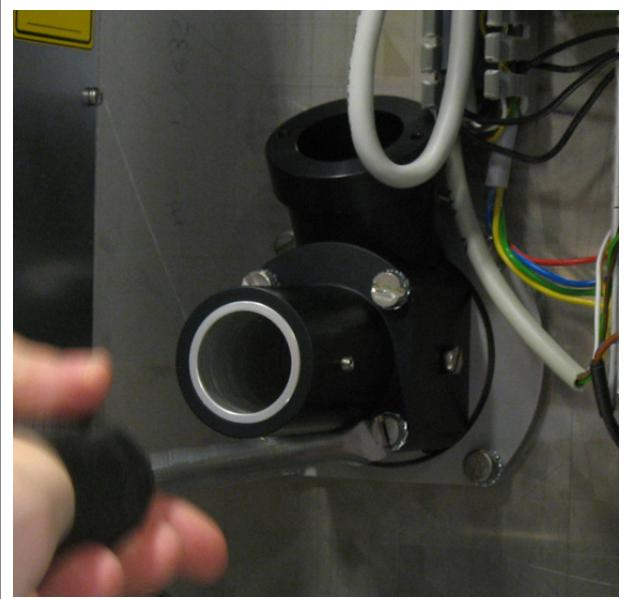

Fig. 8. Installing the Xenon lamp assembly.
2. Close the power supply cover, and fasten the Xenon lamp assembly to the rear wall with 4 screws (Fig. 8) . Put serrated washers under the screws.